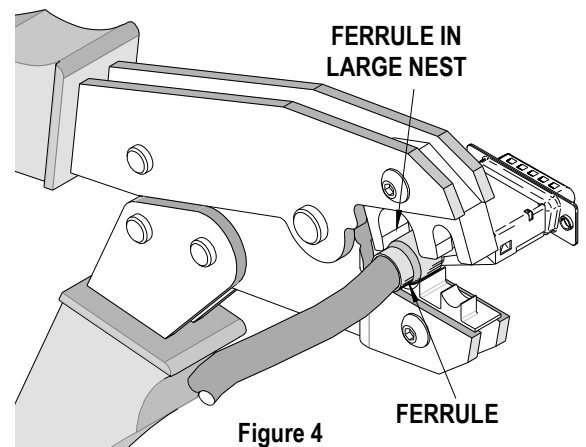

Figure 4
3. Crimp the ferrule by squeezing the handles until ratchet releases. See Figure 4.